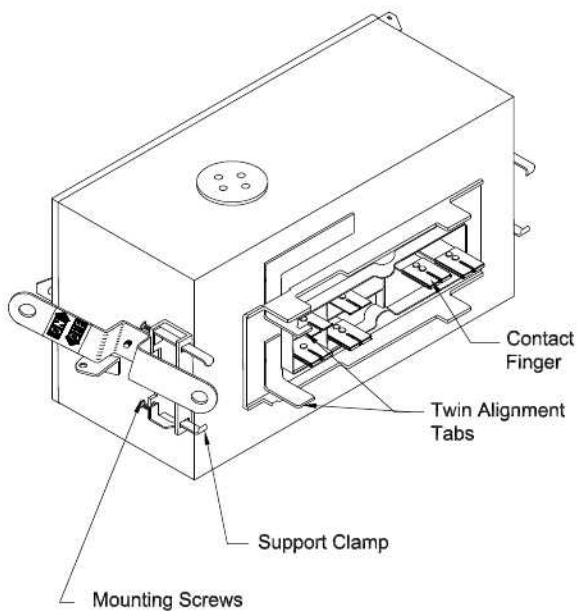

Figure 34. SENTRON Bus Plug (Rear View)
11.2.1 Inspect the bus plug crates/carton for external damage. Remove the bus plug from the carton and inspect for external damage. Verify the contact fingers are not damaged, bent or deformed (Figure 34 and 35).
11.3.2 Back-out the four (4) bus plug mounting screws. The screws are captive and should not be removed. (Figures 34 and 35).
11.3.4 Align the twin alignment/interlock tabs on the back of the bus plug (Figures 34 and 35) with the twin alignment slots in the busway side channel.